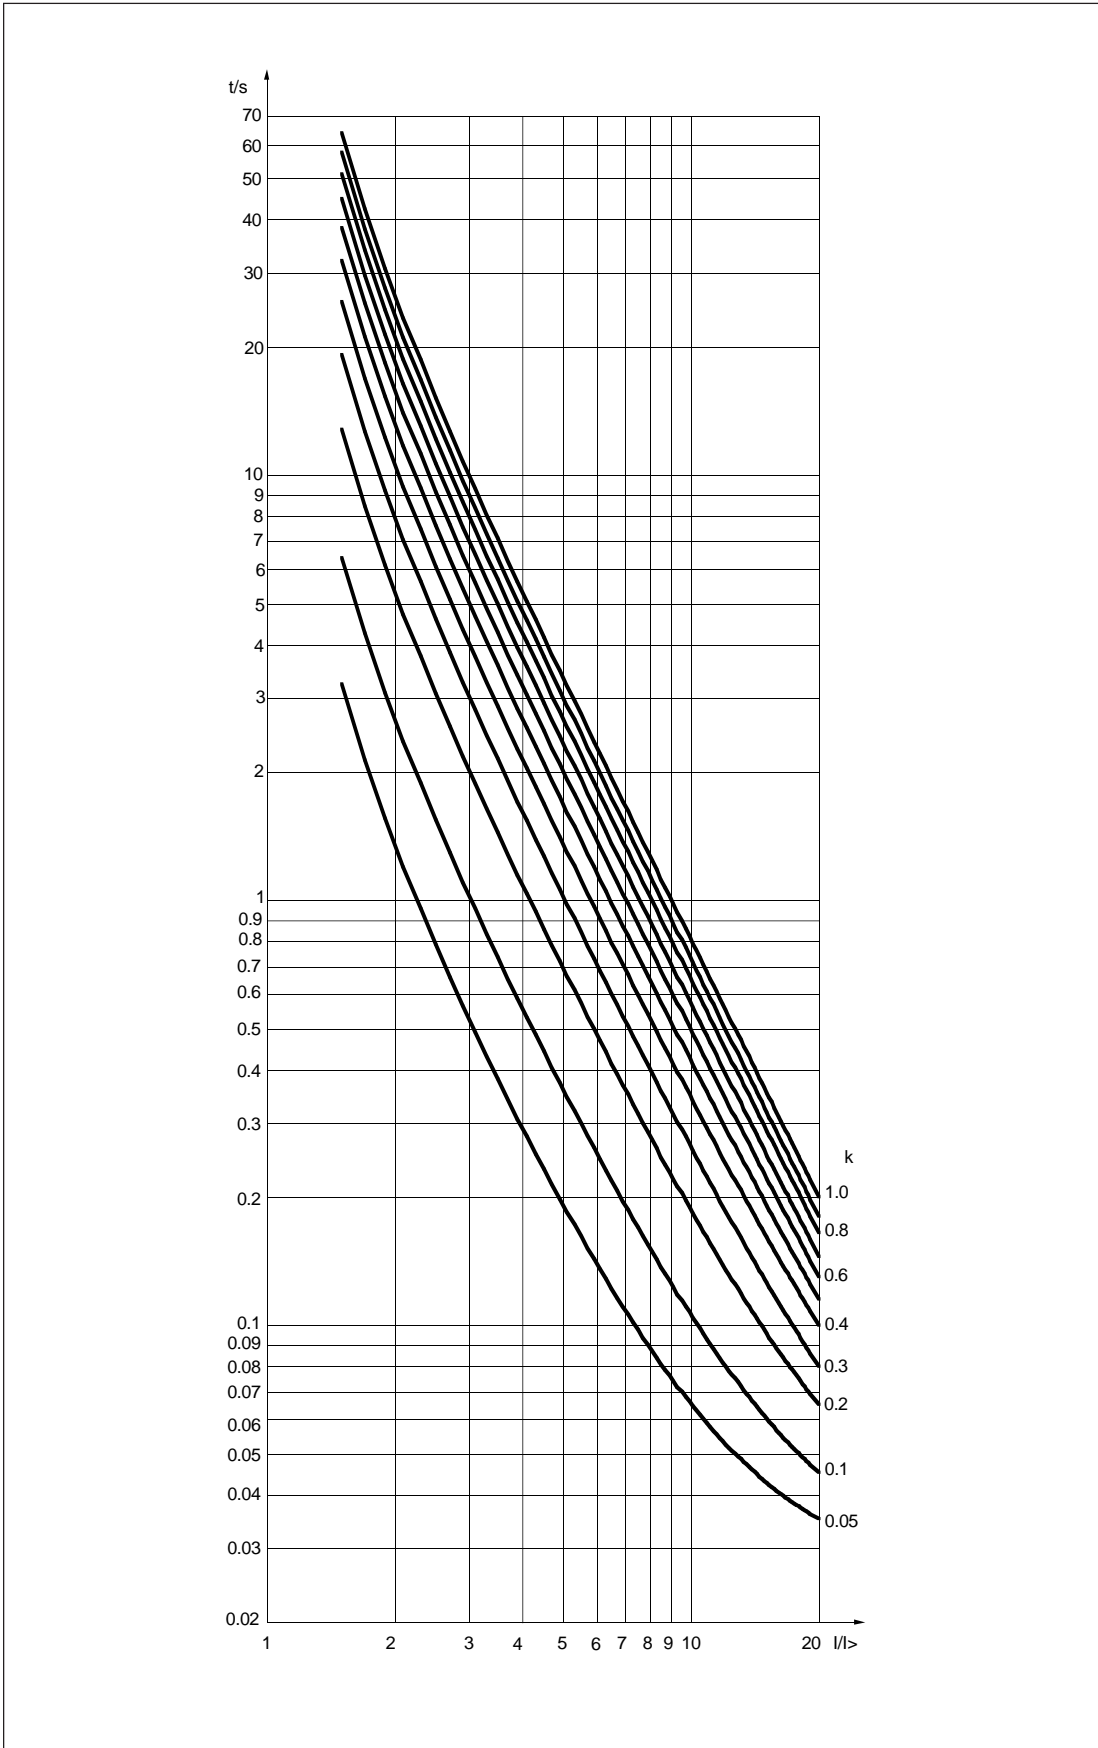

Fig 6. Extremely inverse-time characteristics of the two-phase overcurrent module SPCJ 4D44.
*The actual operate time of the relay, presented in the graphs in Fig. 6...9, includes an additional filter and detection time plus the operate time of the trip output relay. When the operate time of the relay is calculated using the mathematical expression above, these additional times of about 30 ms in total have to be added to the time received.*